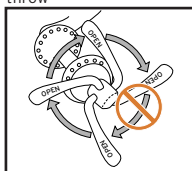

Figure 42- Do not turn lever
- Do not tighten the quick-release wheel retention mechanism by turning the lever like a wing nut (Figure 42); it will not result in sufficient force to hold the wheel in place.